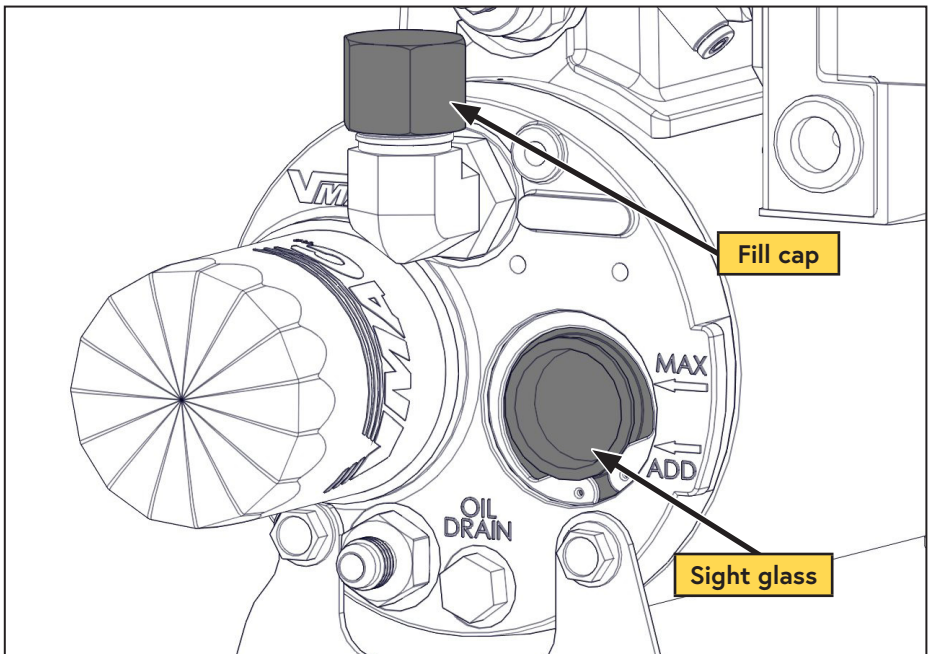

Figure 30 — Filling the WHASP Tank
- Remove the fill cap on the WHASP Tank (above the sight glass) (Figure 30).
- Using a funnel, pour oil into the tank until the oil level in the sight glass reaches the "MAX" line. **The system capacity is 4 L** (Figure 30).